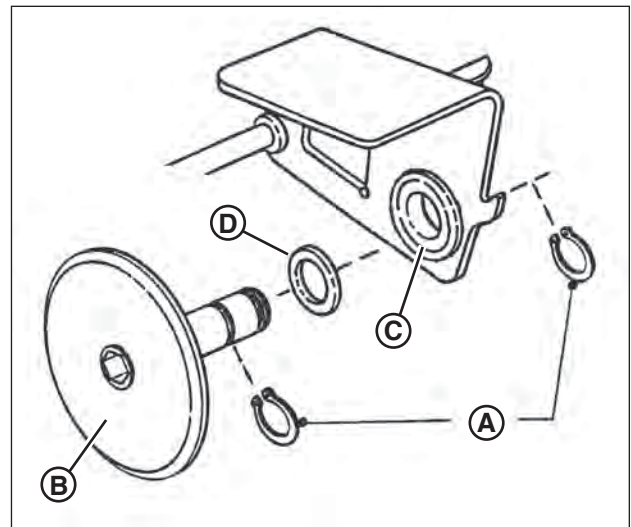

Figure 31: Replacing the driven disc
3. Remove the two snap rings (A, Figure 31) which secure the rubber driven disc (B) to the driven disc assembly.
2. Remove both snap rings (A, Figure 31) that secure the rubber driven disc (B) to the thrust plate.
4. Drive out the existing bearing (C).